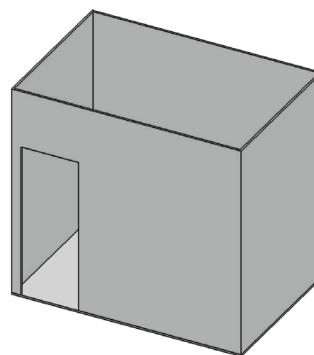

Fig. 1
- An enclosure with walls on all sides, but at least one permanent opening at ground level and no overhead cover. (Fig. 1)